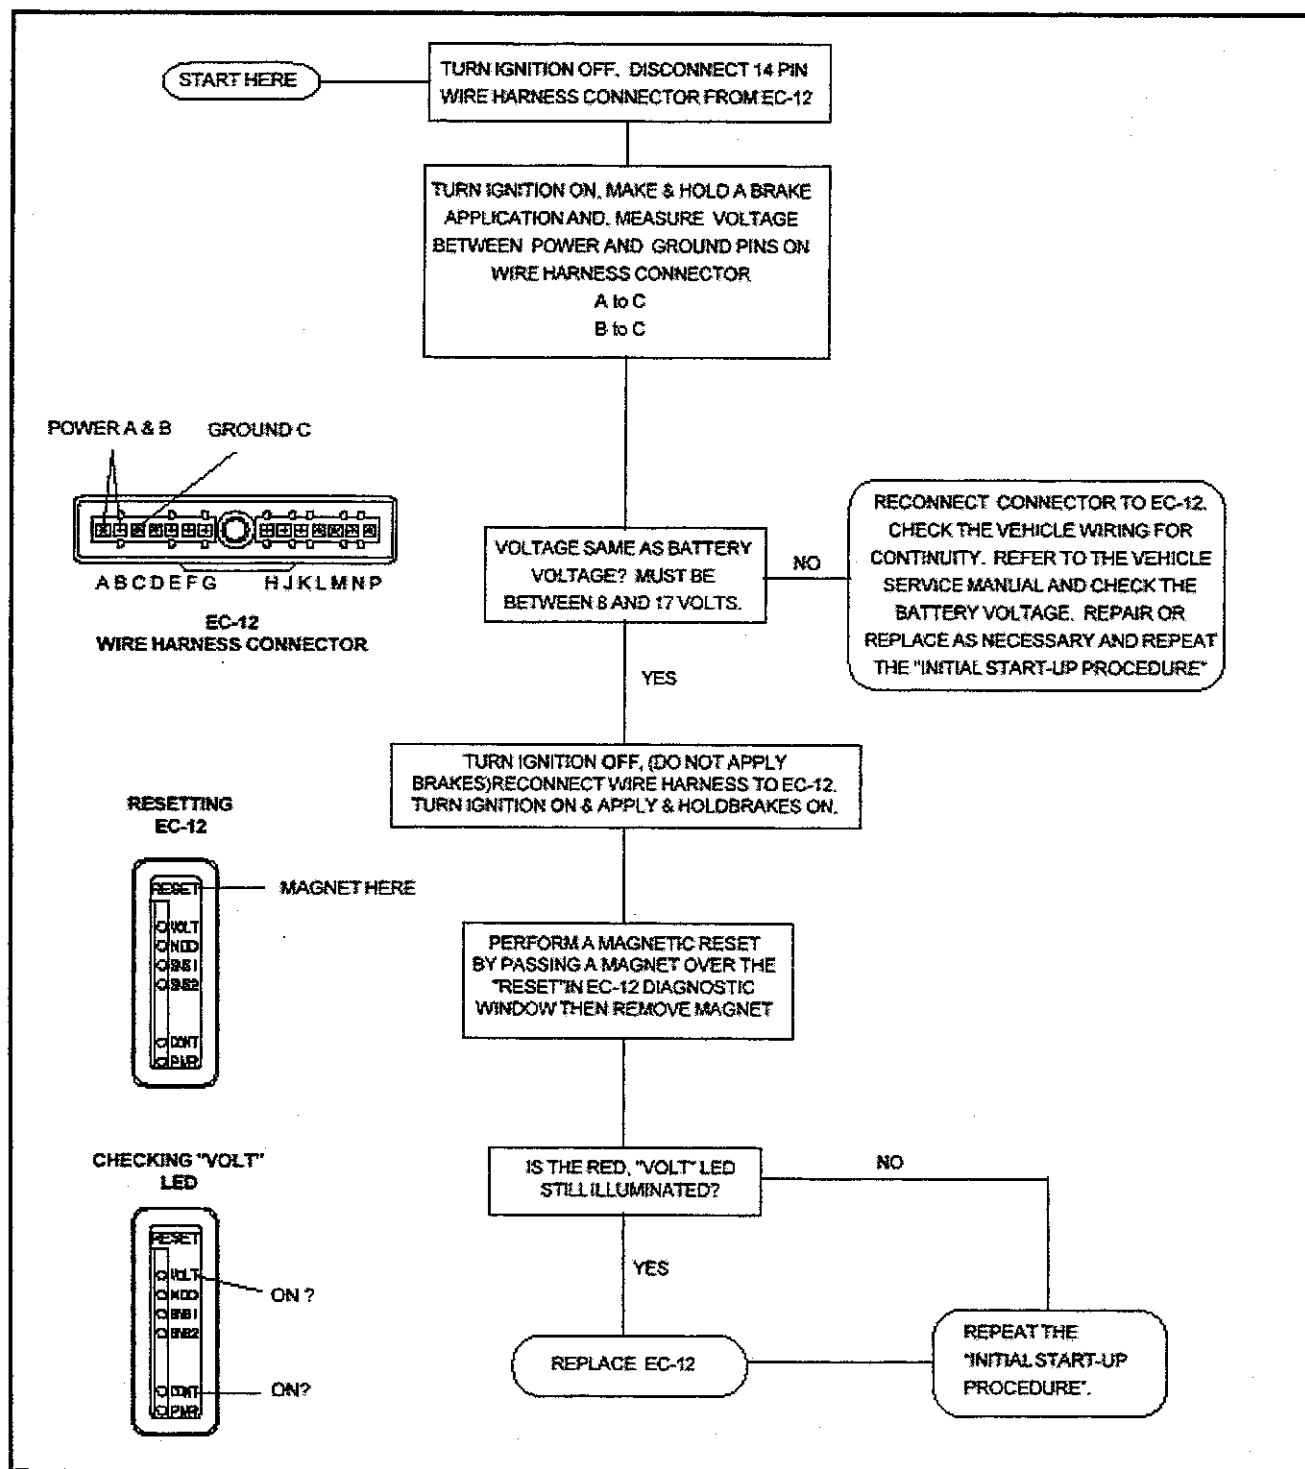

Figure 16—Testing for Power to the EC-12
- See Figure 16—Inspection for Illuminated LED(s)